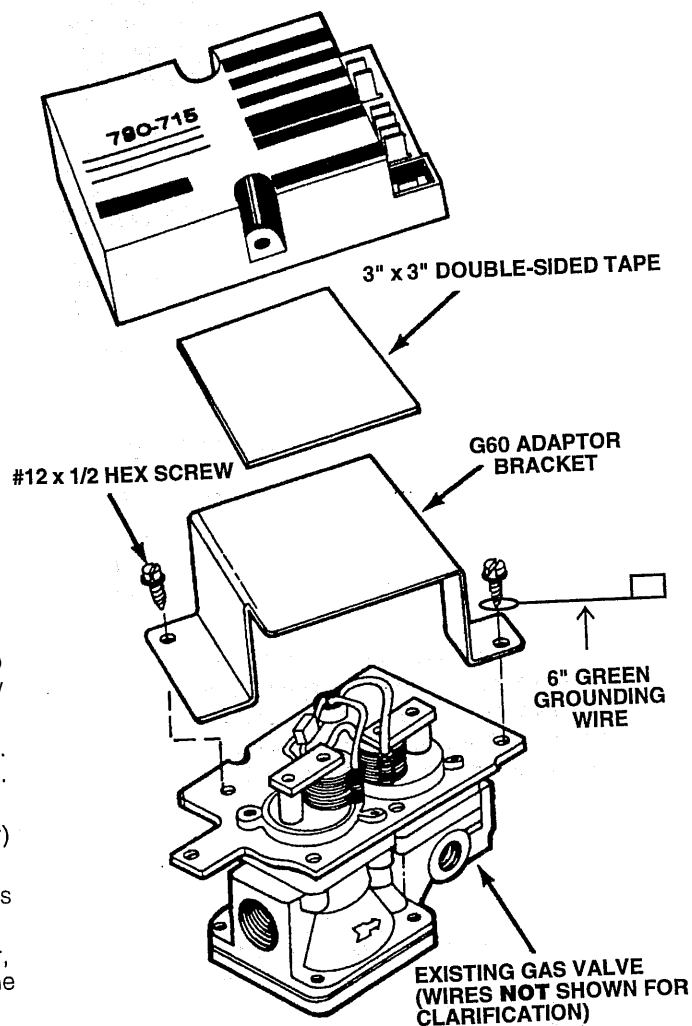

FIGURE 2
1. Locate the G60 adaptor bracket, 6" green grounding wire and using the two #12 x 1/2" sheet metal screws provided, mount the adaptor bracket and 6" ground wire to the gas valve mounting plate as shown in figure 2. The adaptor bracket fits onto the mounting plate in more than one position. Use the position that gives the easiest access to the mounting screw locations. Actual orientation of the bracket is not important.
5. Remove the remaining protective backing from the double-backed tape on the ignition module. Center the module over the previously installed bracket and press down. See Figure 2.